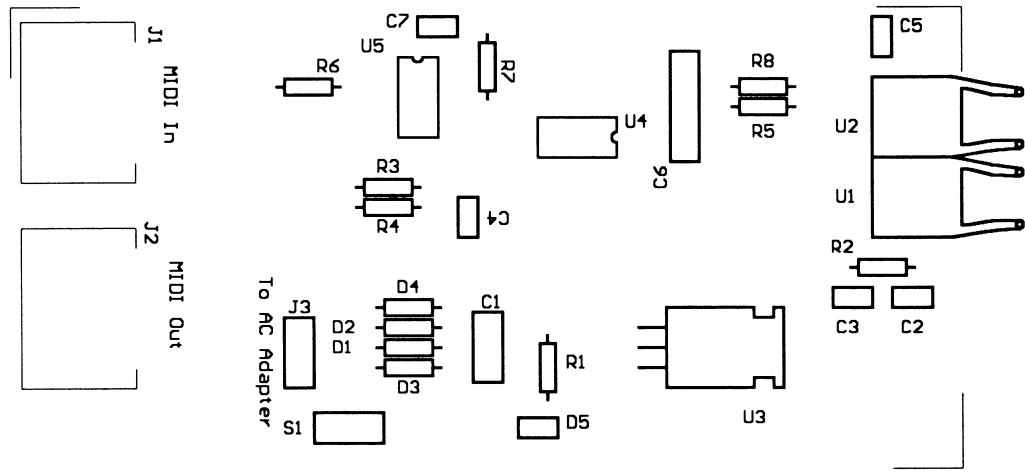

FIGURE 4
Figure 3 shows the printed circuit board pattern. To assist in making your own PC board, a printer file version of the figures (in HP Laserjet format) which you can print on your laser printer is available from the Hewlett-Packard Optical Communications Division computer bulletin board at (408) 435-6733 under the filename MIDI1.ZIP. Figure 4 shows the placement of components on the PC board. No special requirements exist, just solder the components to the PC board in the orientation shown in Figure 4. U1 and U2 need to be snapped together before they will fit on the PC board. The switch and LED should be soldered to the PC board via 6" long wires so they can be attached to the front panel. Be sure to observe the polarity markings on C1 since electrolytic capacitors can get VERY hot if reverse biased.
The AC adapter cable should be run through the rear panel of the enclosure and have a knot tied in it for strain relief before soldering the leads to the PC board in the place indicated in Figure 4. The PC board is designed to fit inside the PacTec CM3-150K-BK enclosure. The rear panel should be punched or drilled to make room for J1, J2 and the AC adapter's cable and the front panel drilled to mount the LED, power switch and allow clearance for U1 and U2.